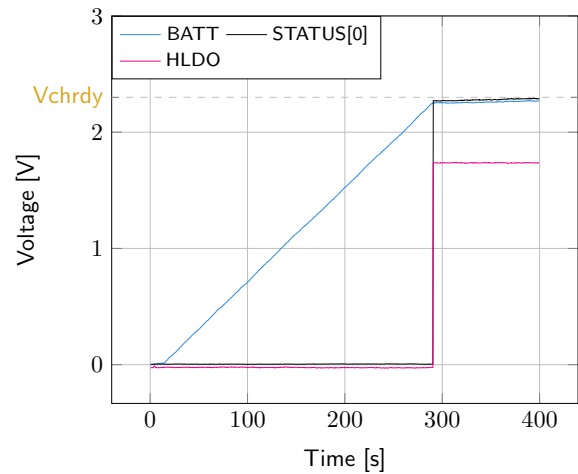

Figure 2: **STATUS[0]** and **HLDO** evolution with **BATT**
- **BATT**: Voltage rises as the power provided by the source is transferred to the storage element (see Figure 2).
- **HLDO/LLDO**: Regulated when voltage on **BATT** first rises above **Vchrdy** (see Figure 2).
- **STATUS[0]**: Asserted when the LDOs are ready to be enabled (refer to Section 7.2 "Normal mode" of the AEM20940 datasheet) (see Figure 2).